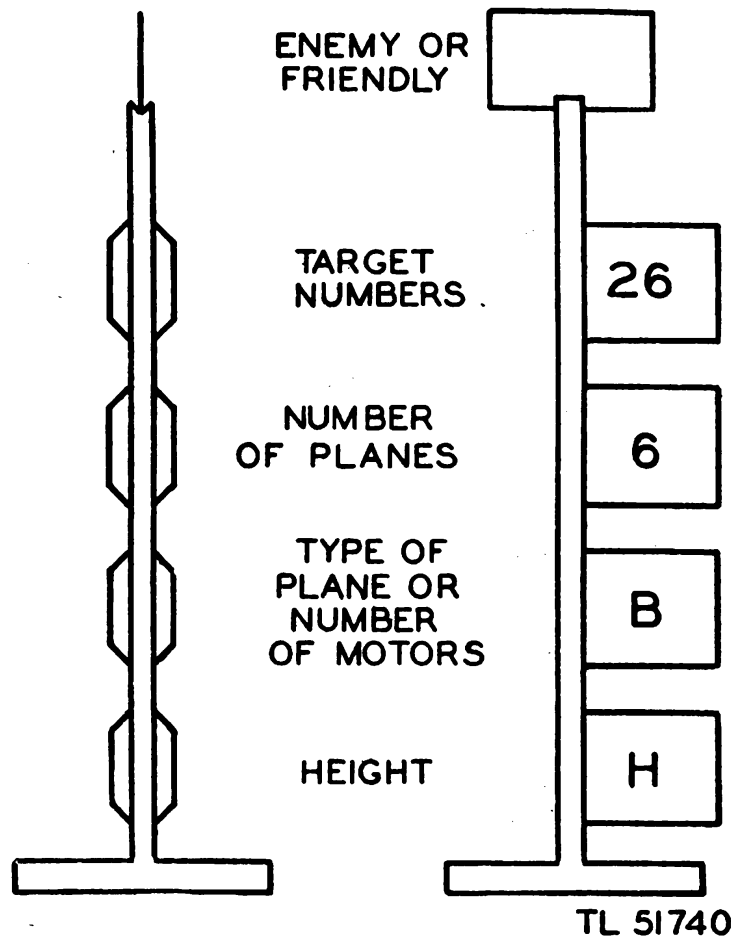

Figure 17. Target display stand.
a. **Display Stands.** The target display stand has nine clips. Figure 17 illustrates the locations of the various colored, numbered, and lettered cards in the display stand to convey the necessary intelligence.